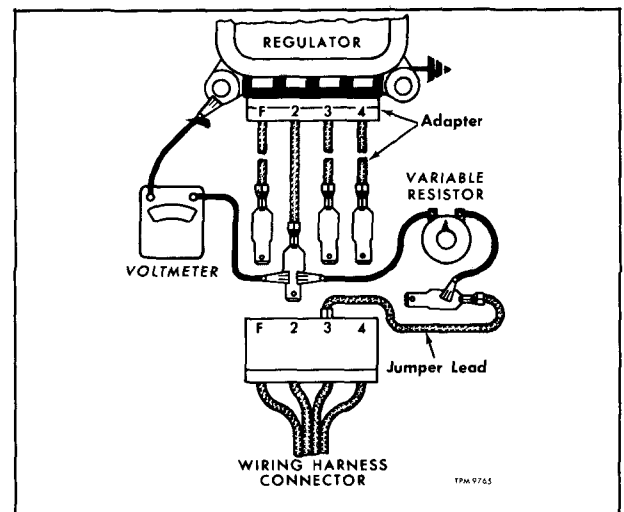

Figure 11—Testing Field Relay Closing Voltage
NOTE: Refer to figure 11 for test connections.
a. Connect a 100-150 ohm variable resistor and a voltmeter to the test adapter as shown in figure 11.